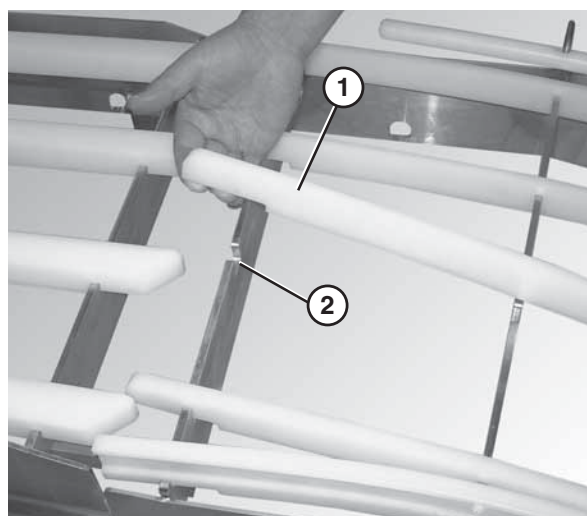

Figure 36
3. Insert the wear strips (Figure 36, item 1) into the appropriate slots in the frame (Figure 36, item 2), starting with the shortest wear strip on the inside of the curved section and working outward to the longest.